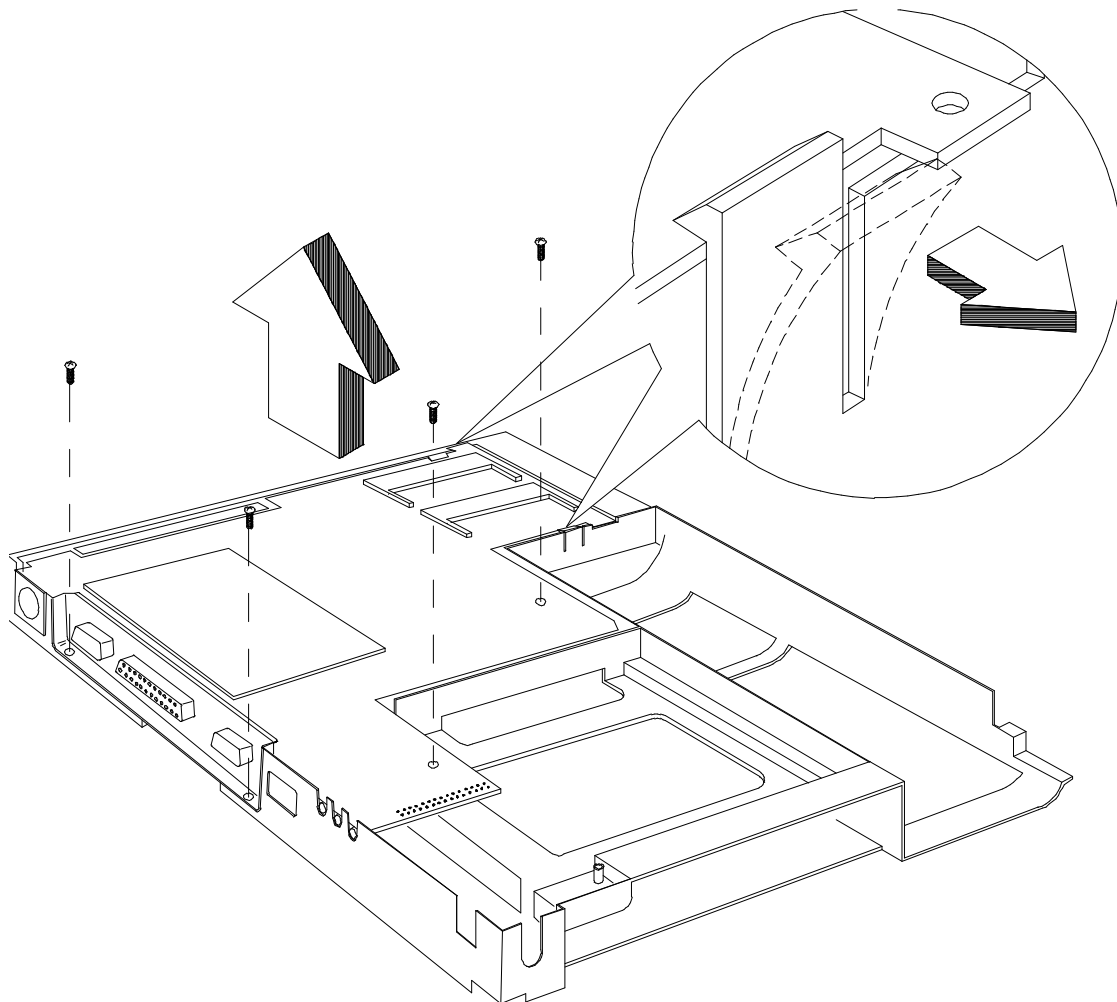

Figure 6-22 Detaching Motherboard from Inside Frame Assembly
5. Remove the four screws that secure the motherboard to the inside assembly frame. Pull up on the Motherboard Assembly to release it from the inside assembly frame (refer to Figure 6-22).